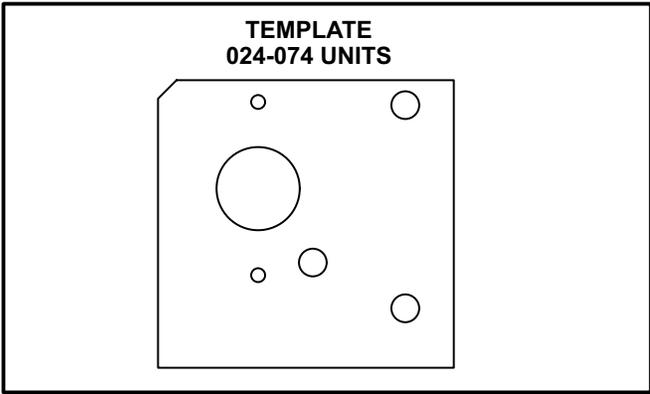
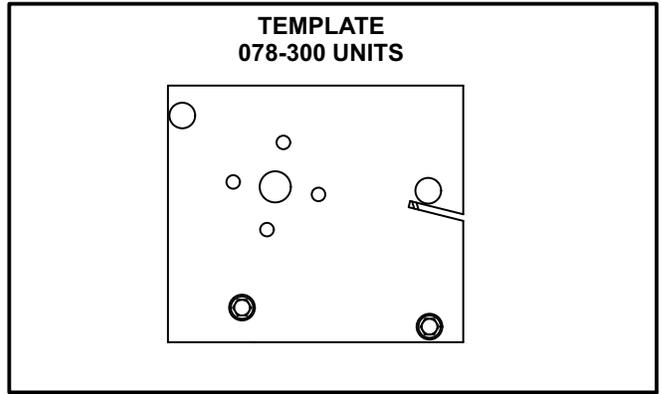

FIGURE 2
FIGURE 3
- 2- Select the template in figure 2 for 024-074 units and figure 3 for 078-360 units.